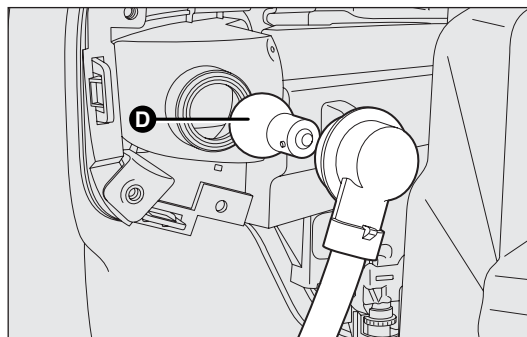

fig. 142
- remove the bulb D-fig. 142 by pushing it in gently and turning anticlockwise (“bayonet” fitting), then replace it;